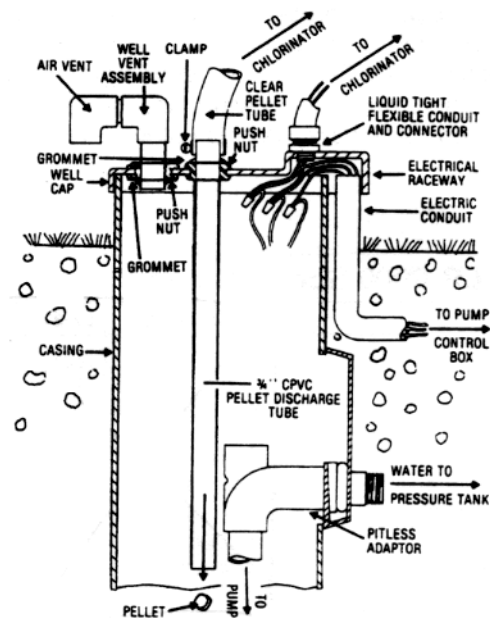

Figure 4
Figure 4 illustrates a typical non-sealed well casing and the modifications required to assure that a) the pitless adapter does not prevent the pellets from dropping into the water: and b) adequate well venting is provided.
4. Drill a 1-1/4 inch (3.2 cm) diameter hole in the well cover corresponding to the location of the pellet discharge tube to be installed (Figure 4). Drill a second 1-1/4 inch (3.2 cm) diameter hole in the well cover for the well vent assembly shipped with the LAND-O-MATIC.
10. Install the clear plastic pellet tube supplied with the LAND-O-MATIC Chlorinator (Figure 4). Shorten the tube as necessary so there are no kinks or obstructions to interfere with the falling of the chlorine pellets. Install hose clamps at both ends of the clear plastic tube.